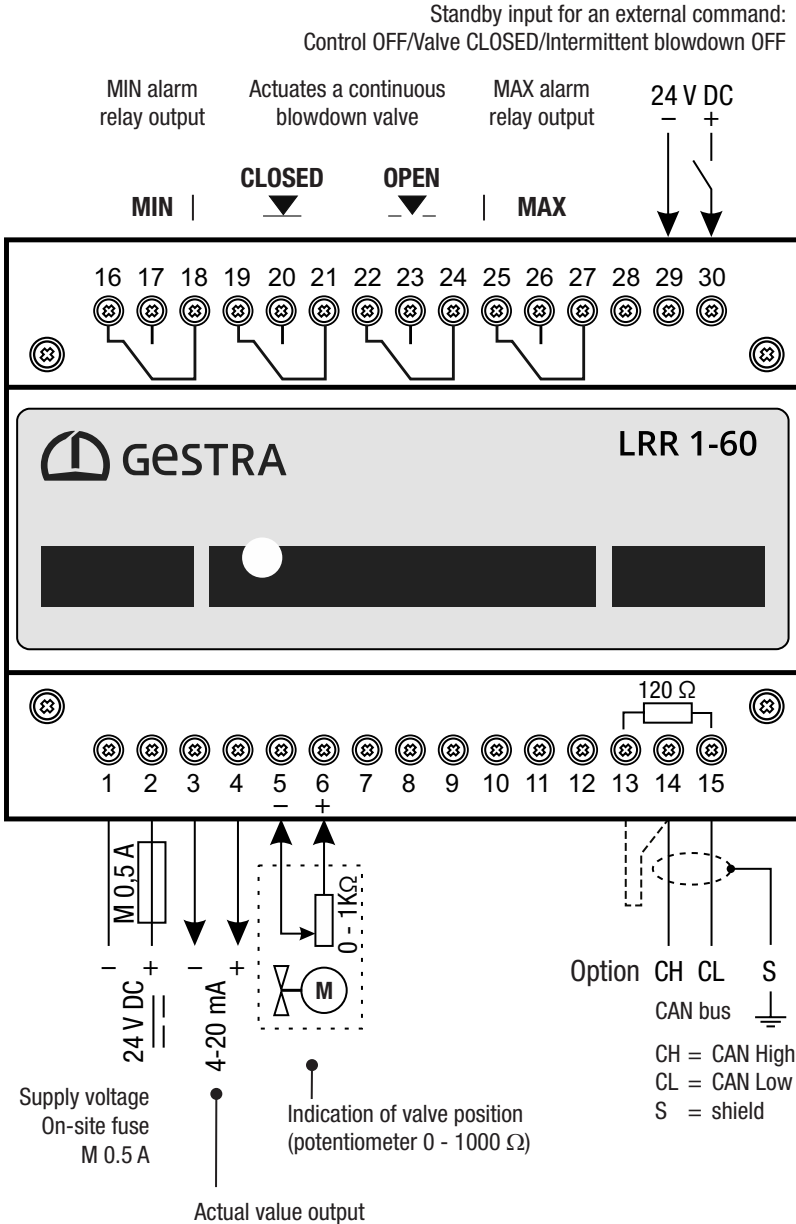

Fig. 6
- Connect the conductivity controller and all associated components as shown in the wiring diagram in Fig. 6 of this Manual.
- Connect the outputs as shown in the wiring diagram in Fig. 6.